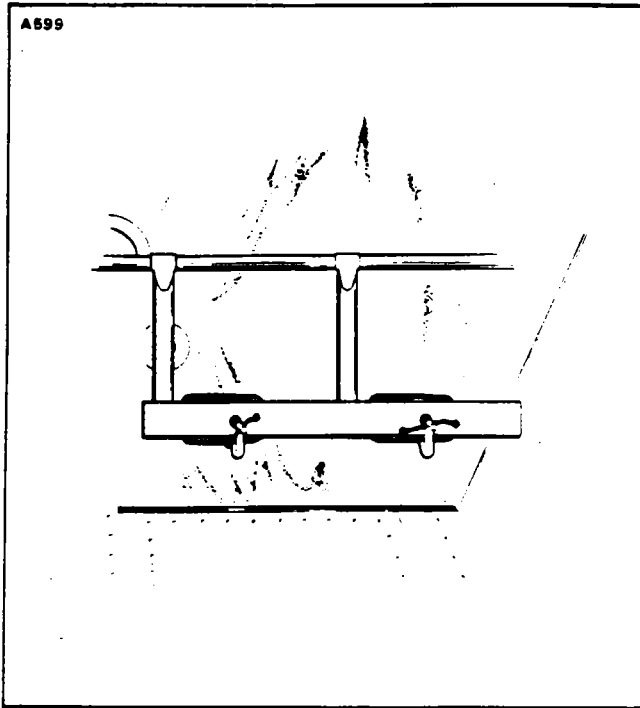

Figure 32-5. Clamping Rudder Pedals in Neutral Position
7. Clamp the rudder pedals to align in a lateral position. (Refer to Figure 32-5.)